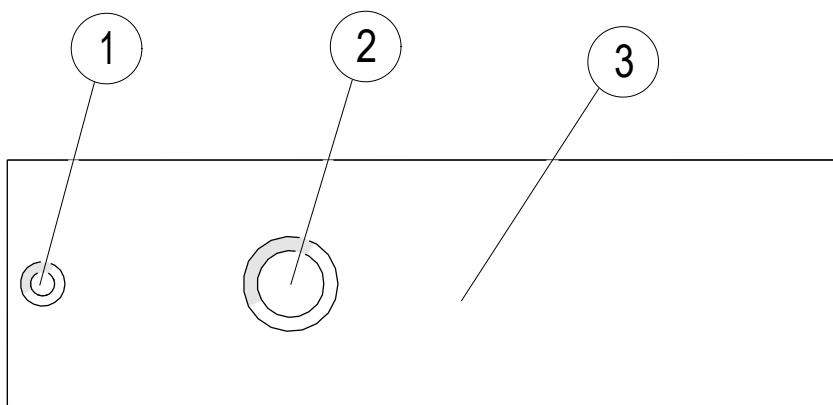
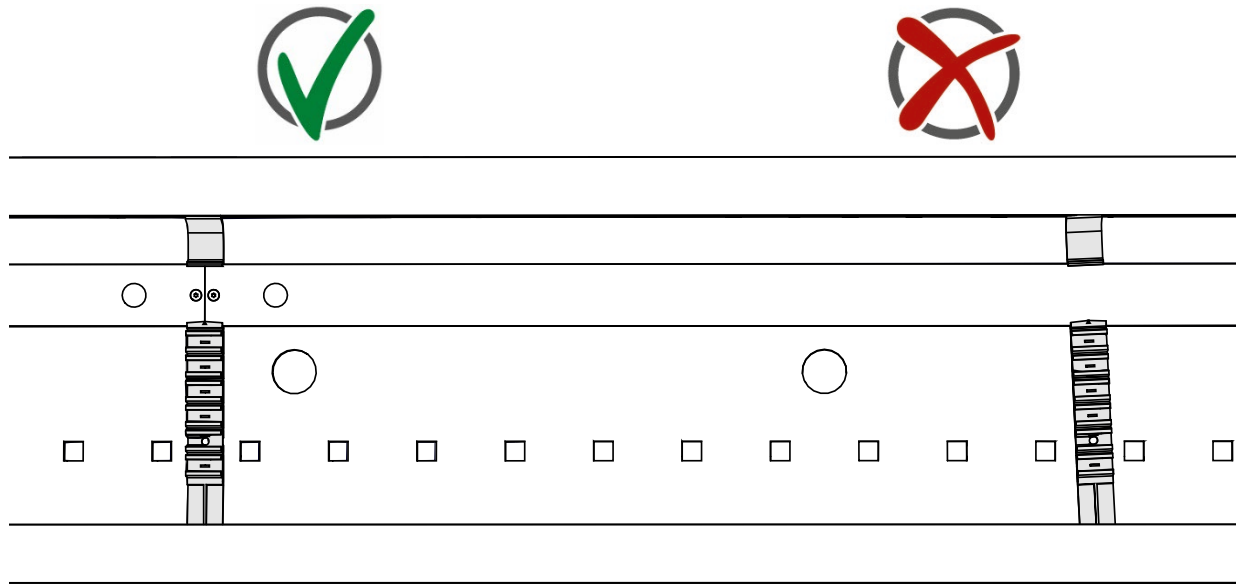

Fig. 2: Positioning band profile (08-B020-6780 and 08-B020-7484)
Fig. 10: Correct: Rail holder vertically clipped, Incorrect: Rail holder not vertically clipped
Clip the positioning band profile into the hanger clamps and align it exactly (the hanger clamps must be vertically clipped see Fig. 10). For fixing the positioning band profile it is necessary to pre-drill the hanger clamps with a diam. of 2.5 mm. To do this, drill through the outermost countersunk hole (see item 1 in Fig. 2) of the positioning band profile.
→ Ensure vertical arrangement of the rail holder (see Fig. 10)!